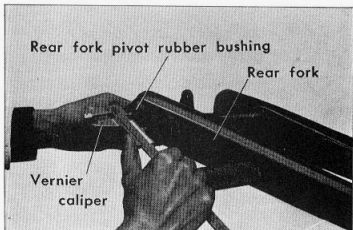

Figure 4-41. Measuring pivot rubber bushing
- (1) Damaged or worn drive chain case gasket should be replaced.
- (2) Check the rear fork pivot rubber bushing. (Fig. 4-41)